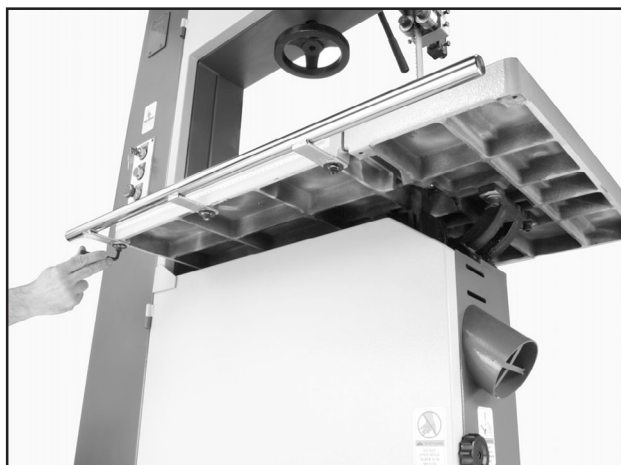

Figure 14. Tightening guard rail cap screws.
2. Flip the rail over and reinstall with the caps screws removed in **Step 1**, as shown in **Figure 14**.